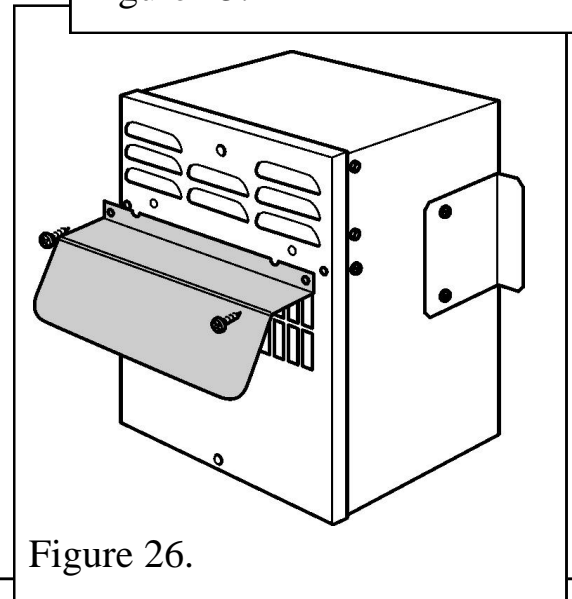

Figure 26.
7. Replace the fan box cover and weather shield (See figure 26) and secure using the three screws provided.